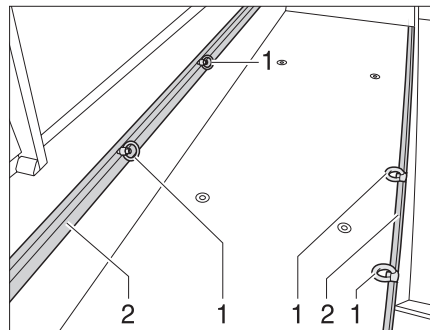

Fig. 1 Fastening rings rear garage
- ▶ Turn the fastening ring (Fig. 1,1) half a rotation anticlockwise.
- ▶ Slide the fastening ring in the fastening rail (Fig. 1,2) to the desired position.